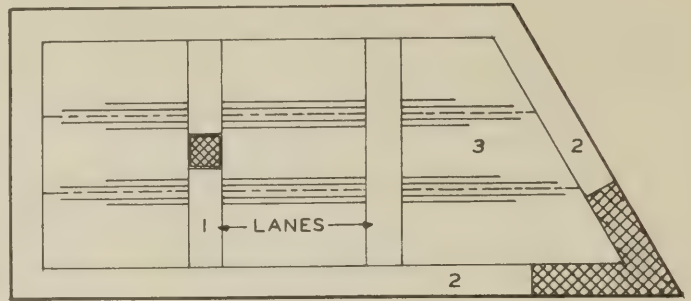

FIG. 2
- (1) Lane blocks out pillar, chimney or other obstruction in ceiling area itself as in Fig. 2.
- (2) Border blocks out cabinet or other odd shape in corner or along wall.